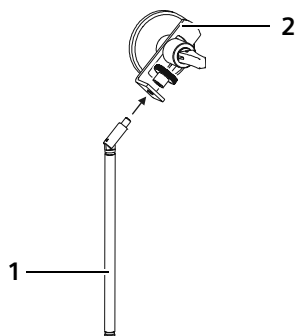

Fig. 3: Mounting the marker rod on the suction cup
1. Mount the marker rod (1) on the suction cup (2) as illustrated in fig. 3.